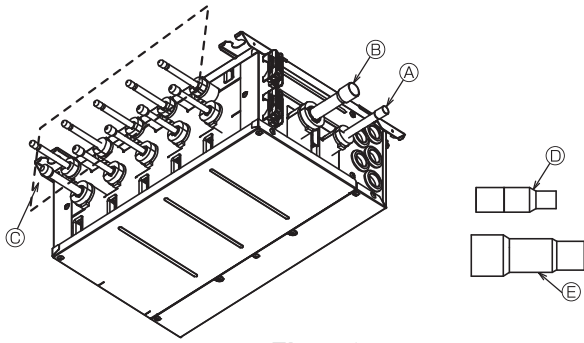

Fig. 7-3
- (1) Remove the rubber caps from the outdoor unit side connection pipe (A) and (B).
- (2) After brazing (C) to the liquid pipe side and (E) to the gas pipe of the refrigerant pipe connected to the outdoor unit side, braze the branch box to connect. (Fig. 7-3, 7-4)
- (3) When brazing in succession, conduct the next brazing once the welded section has cooled down to room temperature. Failure to do so will cause the insulation material or the unit to melt causing condensation.
Remove the copper cap of (C), and braze the refrigerant piping connected to the indoor unit. (Fig. 7-3)
- (4) When the indoor unit is not connected, do not remove the copper cap of (C), or refrigerant leaks.